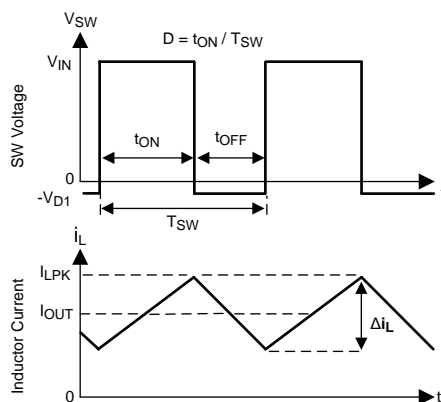

Figure 33. SW Node and Inductor Current Waveforms in Continuous Conduction Mode (CCM)
The following operating description of the LM43600-Q1 refers to the Functional Block Diagram and to the waveforms in Figure 33. The LM43600-Q1 is a step-down buck regulator with both high-side (HS) switch and low-side (LS) switch (synchronous rectifier) integrated. The LM43600-Q1 supplies a regulated output voltage by turning on the HS and LS NMOS switches with controlled ON time. During the HS switch ON time, the SW pin voltage V_{SW} swings up to approximately V_{IN} , and the inductor current I_L increases with a linear slope $(V_{IN} - V_{OUT}) / L$. When the HS switch is turned off by the control logic, the LS switch is turned on after a anti-shoot-through dead time. Inductor current discharges through the LS switch with a slope of $-V_{OUT} / L$. The control parameter of Buck converters are defined as Duty Cycle $D = t_{ON} / T_{SW}$, where t_{ON} is the HS switch ON-time and T_{SW} is the switching period. The regulator control loop maintains a constant output voltage by adjusting the duty cycle D . In an ideal buck converter, where losses are ignored, D is proportional to the output voltage and inversely proportional to the input voltage: $D = V_{OUT} / V_{IN}$.